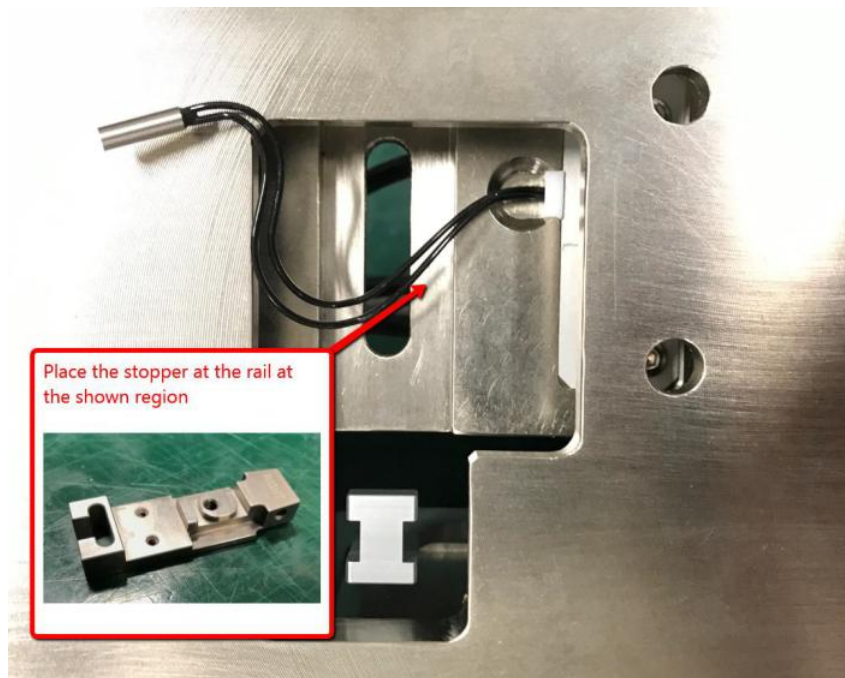

Figure 7 PC, Board Stop
1. Prepare identical board stop by refer below PN.May refer Figure 7